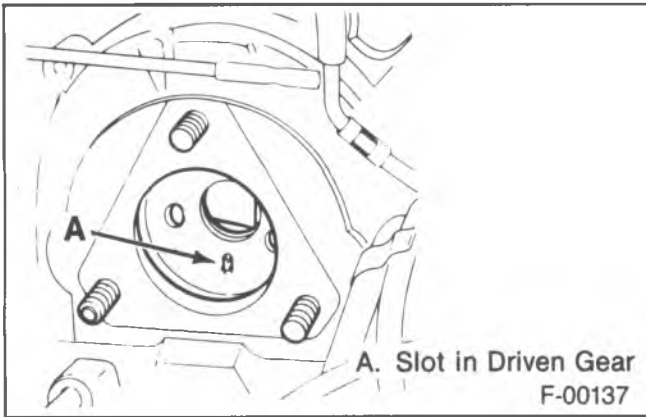

Figure 14—Slot In Injector Pump
3. The slot in the injection pump gear should be in the vertical 6 o'clock position (figure 14). If not, remove J-33042 and rotate the engine crankshaft 360 degrees. The timing marks on the gears will be aligned.